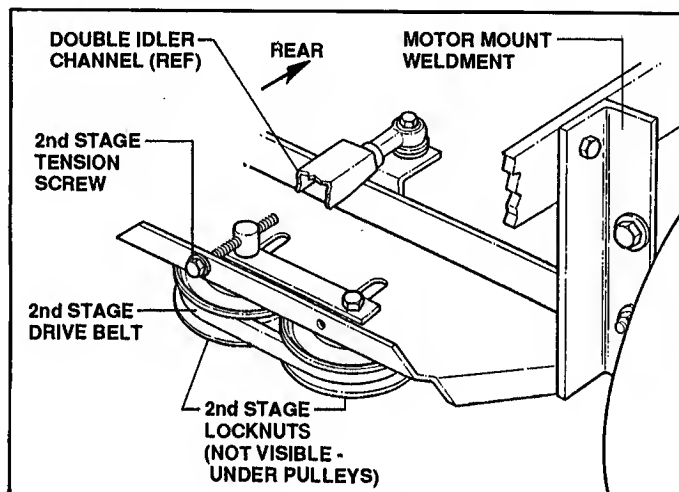

FIGURE 8.4
2. Release tension on 2nd stage drive belt by loosening the 2nd stage tension screw. See Figure 8.4.